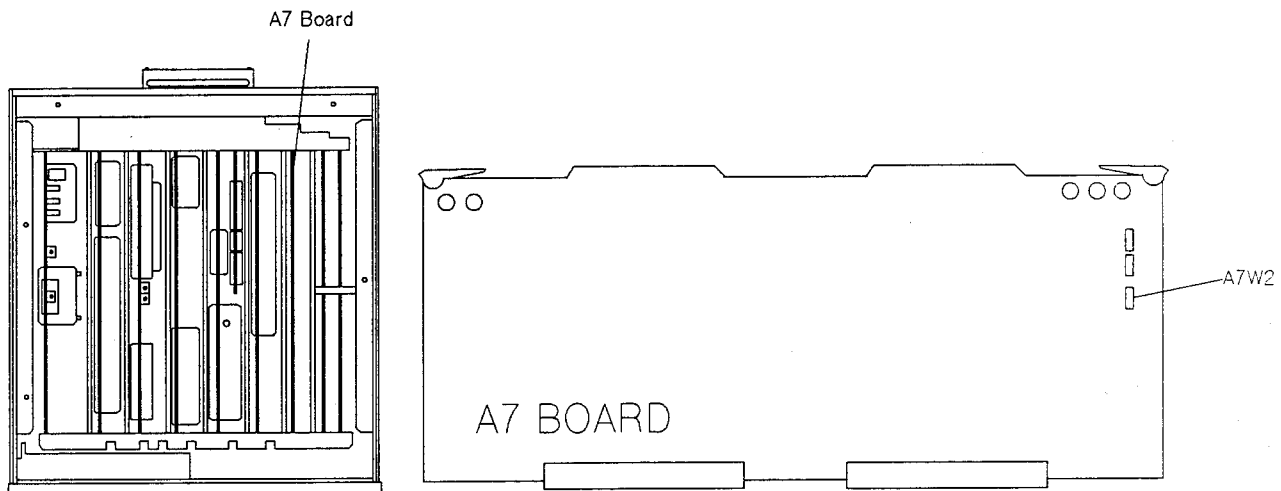

Figure 2-2. A7W2 Write Protect Jumper Location
2. Set the HP 4285A's EEPROM write protect jumper (A7W2) from the normal position (N) to the test position. Figure 2-2 shows the location of A7W2.